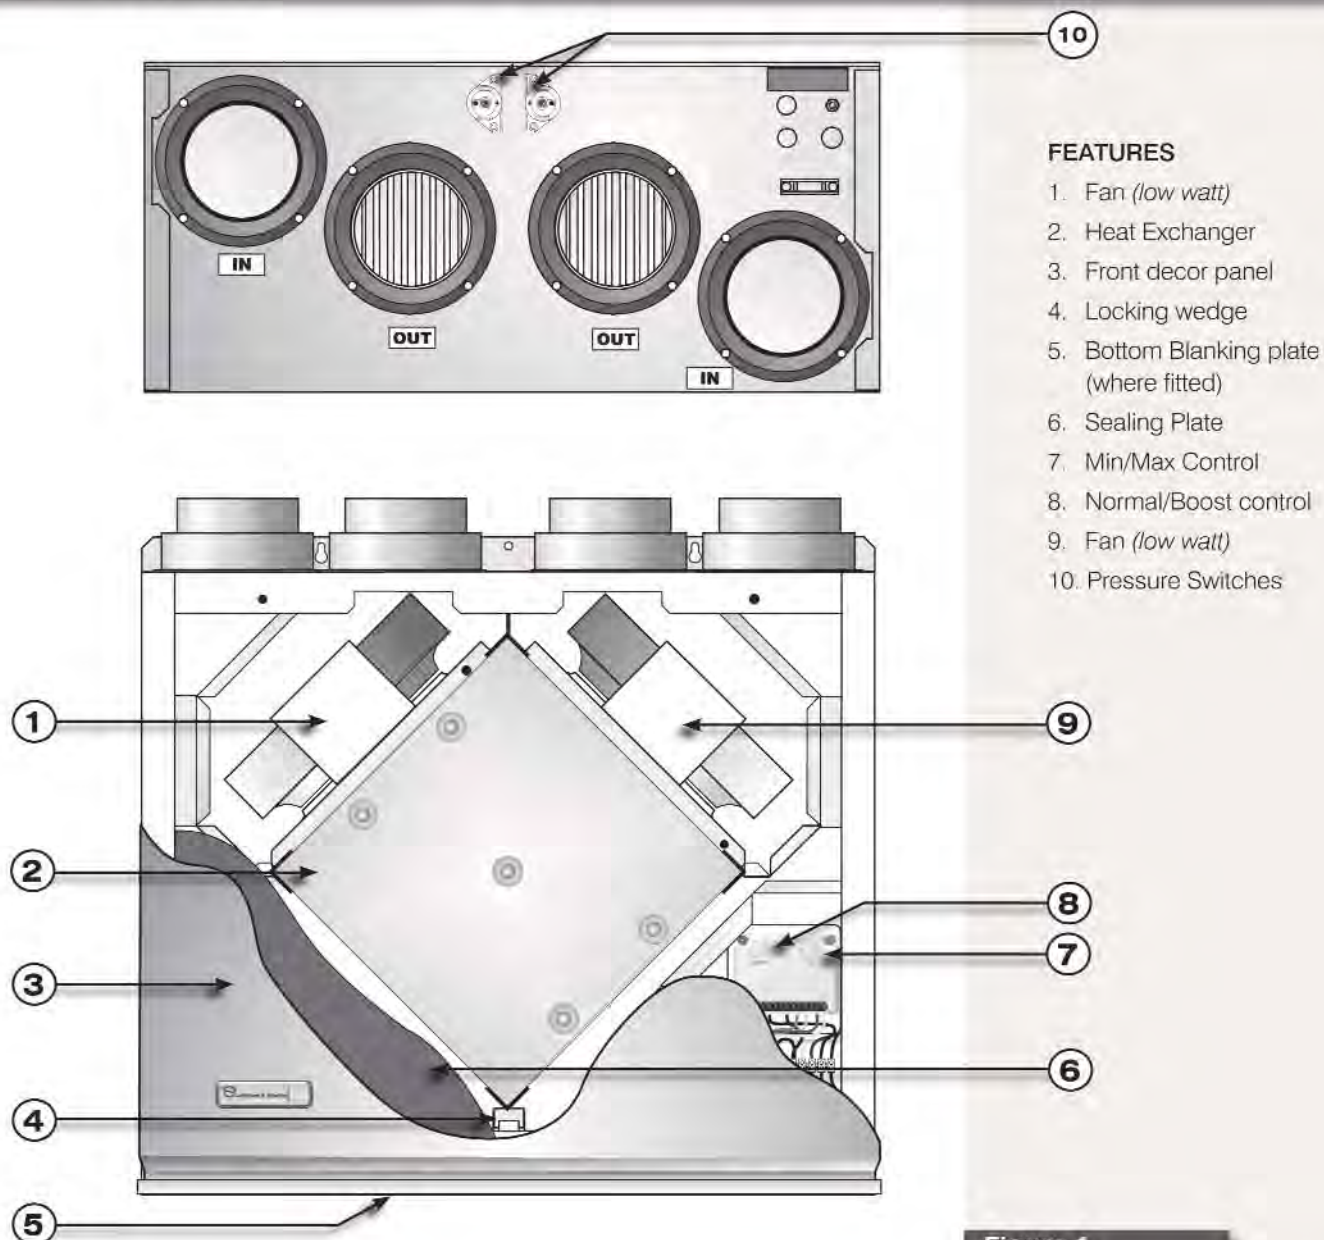

Figure 1
- 5.2.4 Referring to Figure 1, remove the front decor panel and gain access to the electrical panel by removing the electrical panel cover.